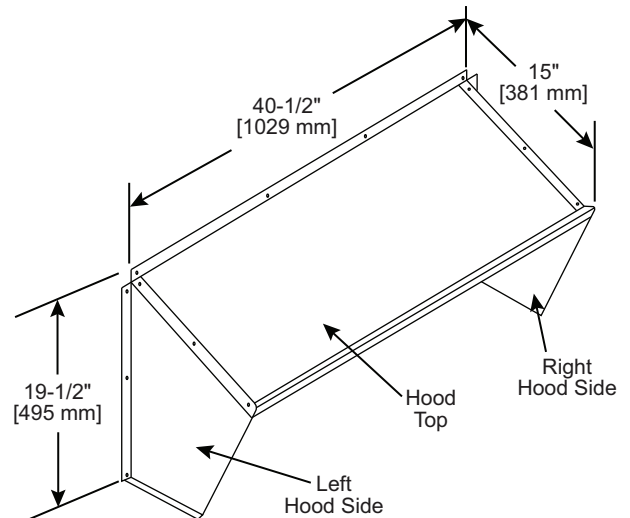

Fig. 30 — CRBARHOD001A00 Hood Sides and Top
5. Using the provided hardware, screw the CRBARHOD001A00 hood sides and top together (see Fig. 30).